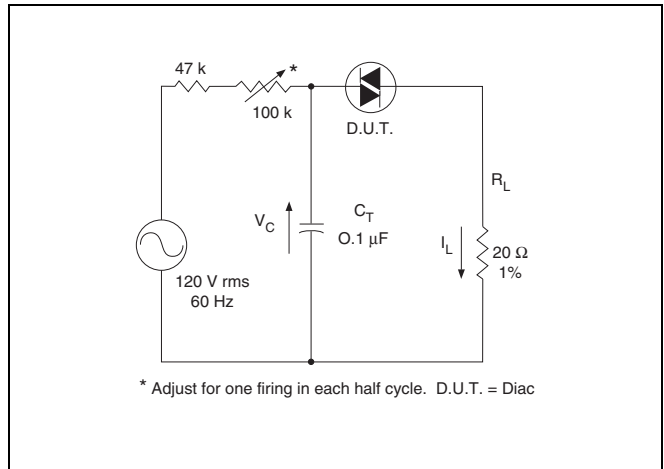
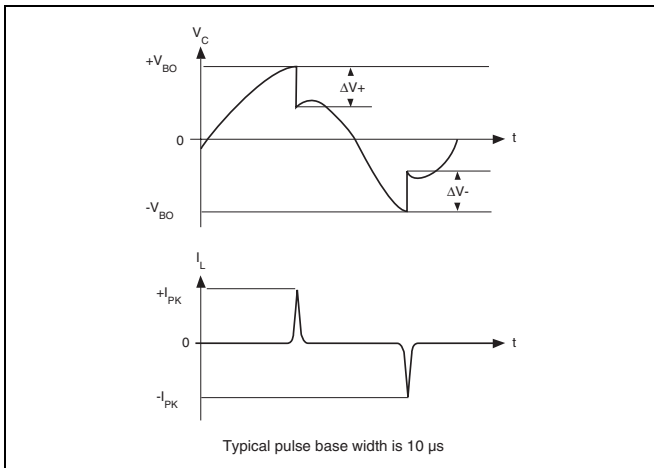

Figure E8.5 Circuit Used to Measure Diac Characteristics (Refer to Figure E8.4.)
Figure E8.4 Test Circuit Waveforms (Refer to Figure E8.5.)
- (1) Breakover voltage symmetry as close as 1 V is available from the factory on these products.
- (2) See Figure E8.4 and Figure E8.5 for test circuit and waveforms.
- (3) Typical switching time is 900 nano-seconds measured at  $I_{PK}$  (Figure E8.4) across a 20  $\Omega$  resistor (Figure E8.5). Switching time is defined as rise time of  $I_{PK}$  between the 10% to 90% points.
- (4) See V-I Characteristics.